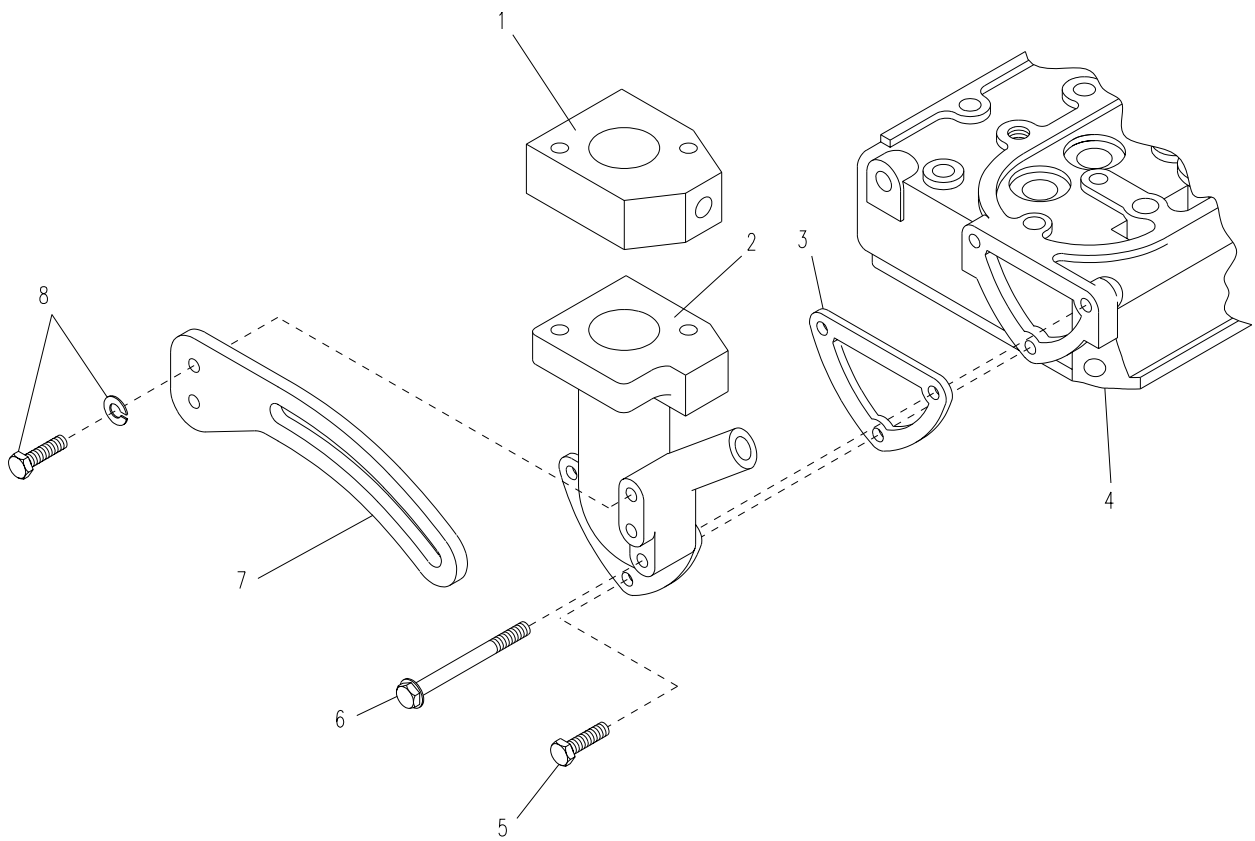

Figure 6-30. Water Flange
- a. Remove the temperature sender block (1, Figure 6-30).
- b. Remove two bolts and lockwashers (8) and alternator bracket (7) from water flange.
- c. Remove three screws (5 and 6) securing water flange (2) to engine block (4).
- d. Remove water flange (2) and water flange gasket (3).
- e. Apply sealing compound to both sides of new water flange gasket (3).
- f. Install new water flange gasket (3) and new water flange (2) to engine block (4) and secure with three screws (5 and 6).
- g. Install temperature sender mount block (1).